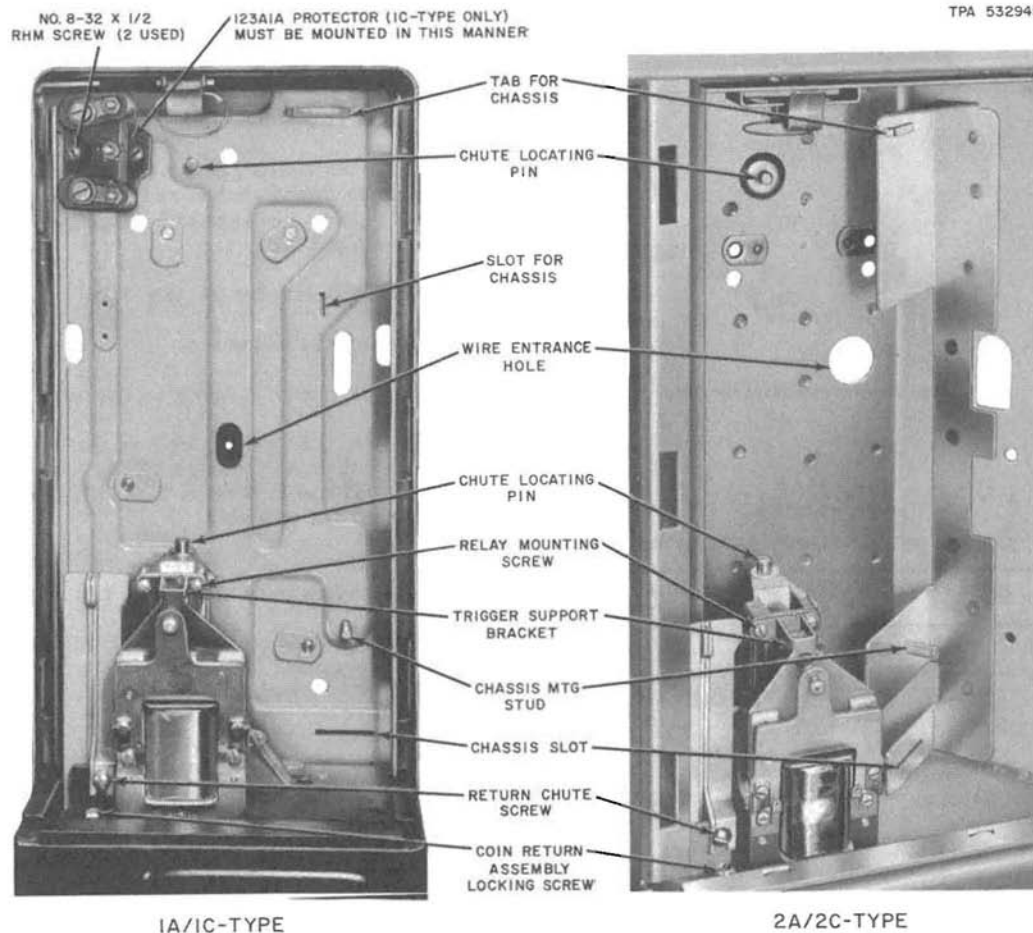

Fig. 11—Housing and Mounting Plate Assemblies
- (1) Place chute on locating pins at rear of hopper assembly, and back of housing (Fig. 11).
- (2) Place spring in groove on chute.
- (3) Lock spring in place by pushing chute locking lever down.
- (4) Reconnect totalizer plug P2 to J2.
- (1) Slide chassis under tab (Fig. 11).
- (2) Seat chassis tabs in slots.
- (3) Tighten chassis mounting captive screw.
- (4) Replace (BK) and (Y) leads on coin relay after threading through hole in hopper. Connect (Y) lead to terminal G and (BK) lead to terminal 3 of coin relay.
- (b) Feed inside wire through wire entrance hole (Fig. 11) as set is mounted on backboard.